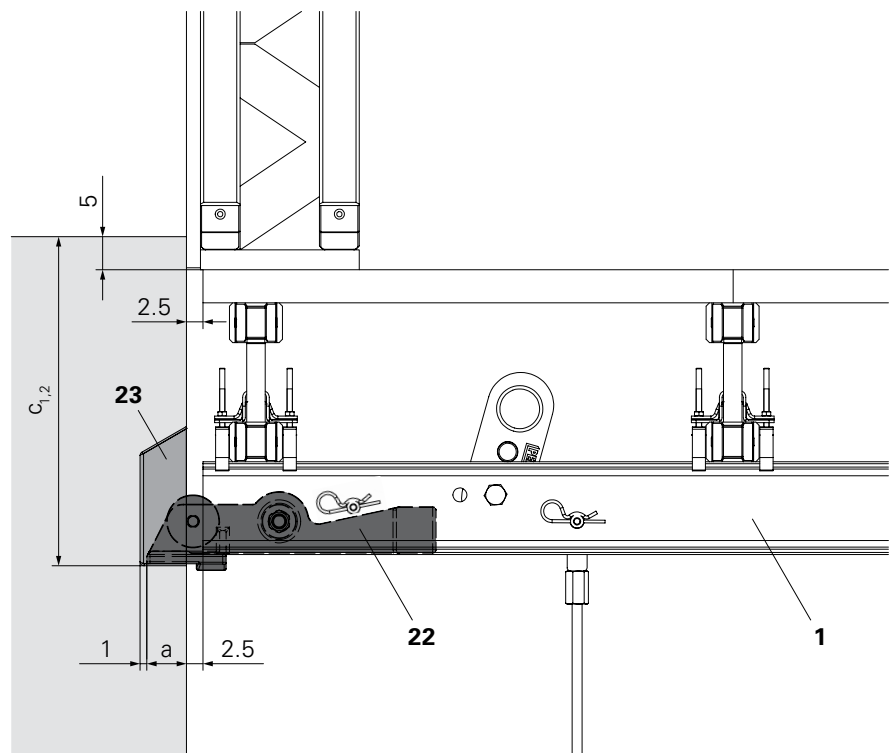

Fig. A1.02
- The distance $c_{1,2}$ from the bottom edge of the Bearing Box to the concreting joint depends on the type of girder. (Fig. A1.02)